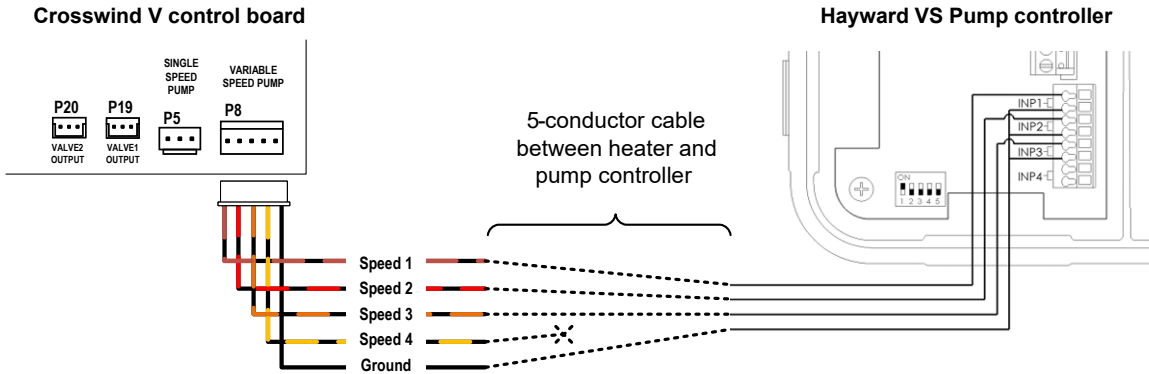
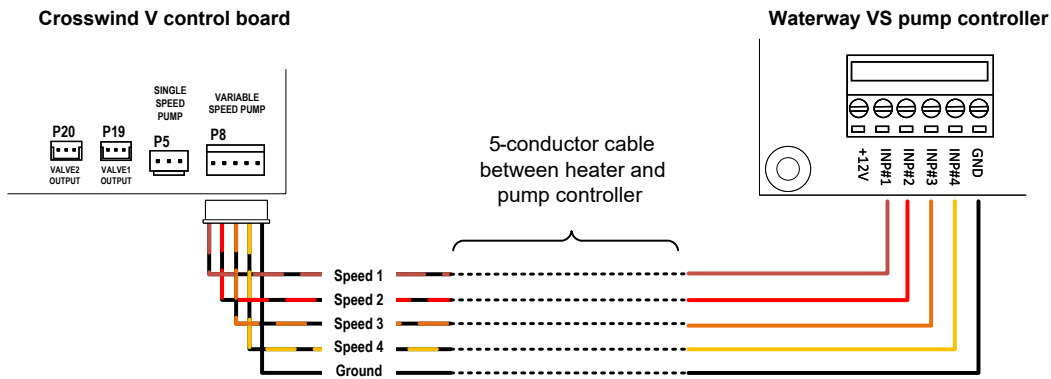

Figure 143. Hayward THP VS Pump Family
Figure 147. Waterway Power Defender VS Pumps with Discrete Switch Inputs
3. Connect the other end of the 5-conductor cable to the digital input terminals on the variable-speed pump controller or the digital to RS-485 pump control interface. Figure 143 through Figure 147, provide examples of connections for certain variable-speed pump brands and models. Please refer to the installation and configuration manual of your variable-speed pump for more details on connecting and configuring the digital input speed selector.